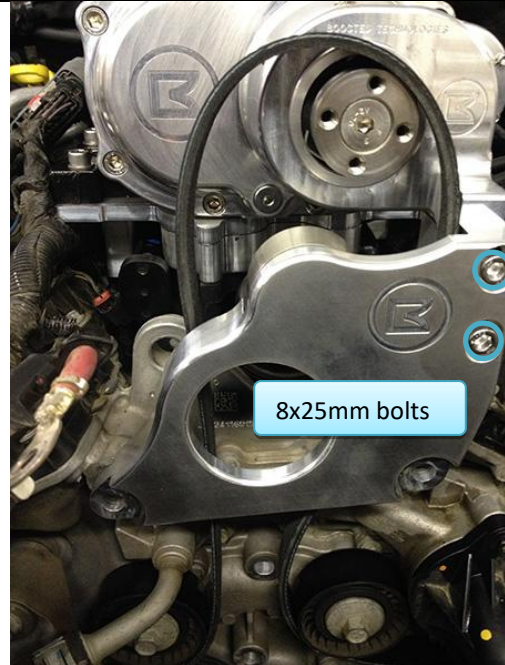

Figure 60: Plate with pulley attached to nose support.
37.1. Install plate with pulley (Figure 60)